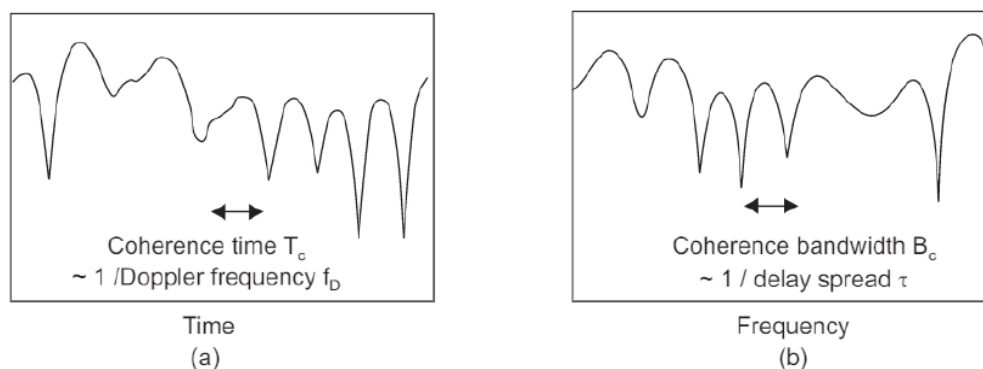

Fig 4.20: Fading as a function of (a) time and (b) frequency
- Fading is therefore a function of time, as shown in Fig. 4.20 (a). The amplitude and phase of the received signal vary over a timescale called the *coherence time*, T_c which can be estimated as follows: